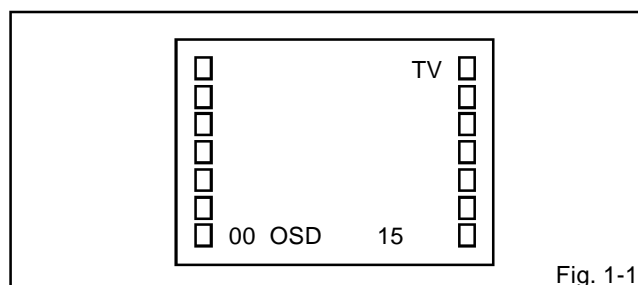

Fig. 1-1
1. In the condition of NO indication on the screen. Press the VOL. DOWN button on the set and the Channel button (**9**) on the remote control for more than 1 second to appear the adjustment mode on the screen as shown in **Fig. 1-1**.
4. Activate the adjustment mode display of **Fig. 1-1** and press the channel button (**02**) on the remote control to select "RF.AGC".
3. Activate the adjustment mode display of **Fig. 1-1** and press the channel button (**01**) on the remote control to select "CUT OFF".
4. Activate the adjustment mode display of **Fig. 1-1** and press the channel button (**10**) on the remote control to select "R.BIAS".
3. Activate the adjustment mode display of **Fig. 1-1** and press the channel button (**22**) on the remote control to select "TINT".